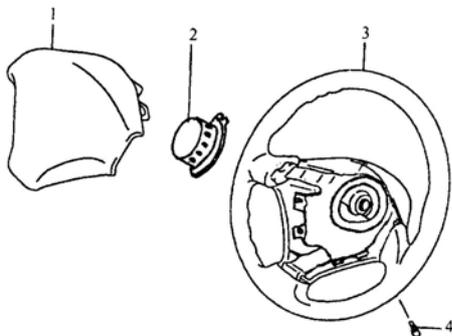

FIG.15-1
- (1) Fireproof glove and glasses should be necessary when removing the steering wheel with airbag system.
- (2) Loosen the four mounting bolts on steering wheel.
- (3) Take out airbag module inside steering wheel. (Refer to FIG.15-1)
- (4) Unclench the clip on the gas inflator seat by using a screwdriver, rotate gas inflator anticlockwise about  $40^{\circ}$  carefully, then take out the gas inflator.
- (5) Loosen the steering wheel mounting nut and take down steering wheel from steering column.